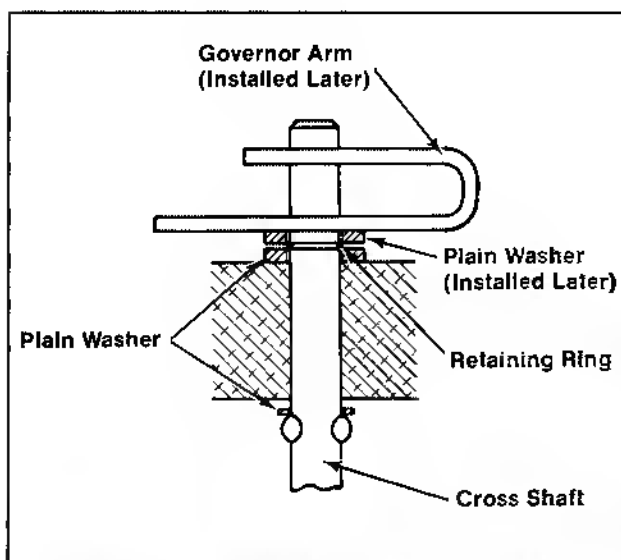

Figure 11-7. Installing Governor Cross Shaft.
1. Install the plain washer, cross shaft, plain washer, and retaining ring. Refer to Figure 11-7.